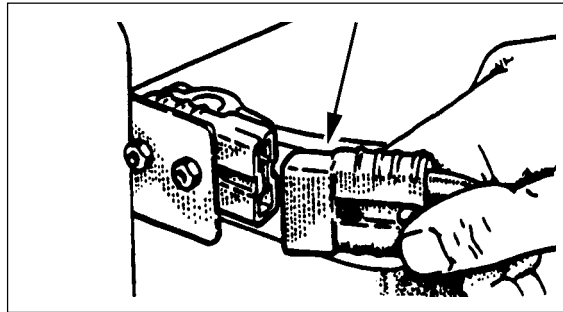

Figure 24
3. Join the connector from the batteries to the connector on the tank support. See figure 24.